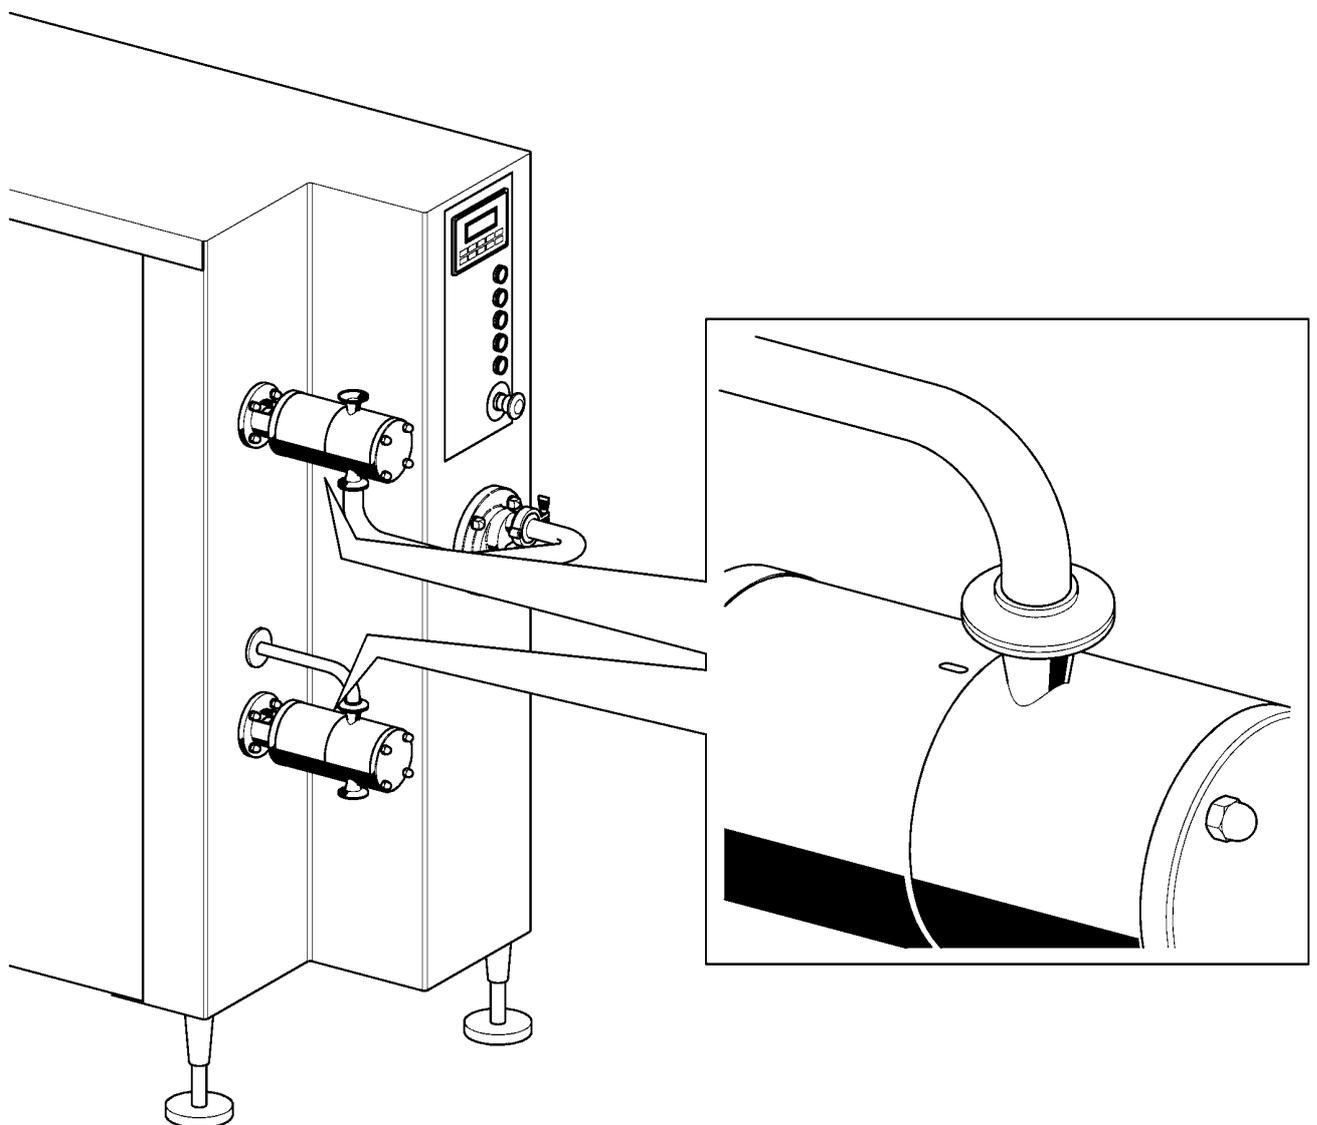

**Fig. 7-7 – Pumps assembly-disassembly**
- 6) Disassemble the various sets (Fig. 7-7 pos. 1-2-3) controlling their efficiency and wear.
- 7) Replace the O-ring gaskets (Fig. 7-7 pos. 4).